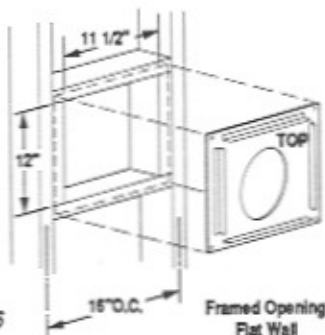

Figure 6
Step 4. Install the outside firestop assembly into prepared framed opening (Figure 6).